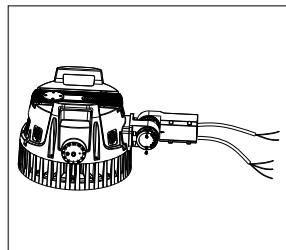

Figure 12
- Remove the mounting screws from the bracket on the fixture and thread the wires through the bracket (see Figure 12).